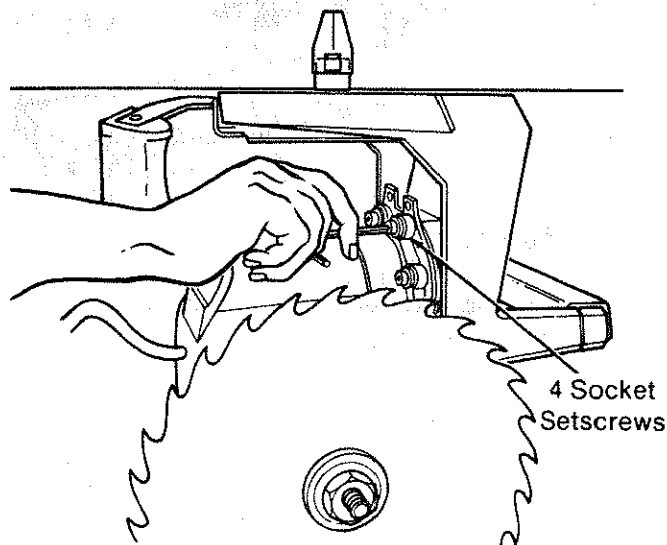

Fig. 58
7. Loosen the four screws behind the *yoke* using a 1/8 inch hex-L wrench. (Figure 58)